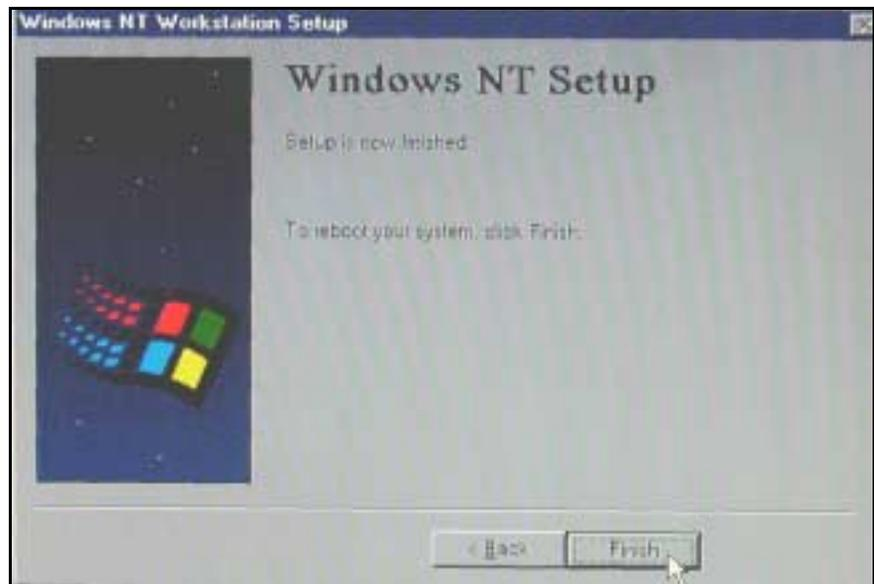

Figure 4-15 Windows NT Setup screen
24. At "Windows NT Setup" screen (see Figure 4-15) click *Finish*.